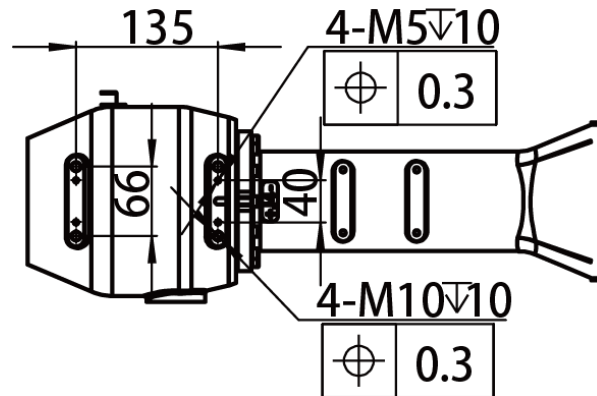

Figure 7-6 Diagram of elbow load of the manipulator
The specification and size of the installation hole of J3 axis elbow of the manipulator are shown in Figure 7-6.
- The position of center of mass of elbow load shall be located in the area of 150mm × 80mm as shown in Figure 7-6.